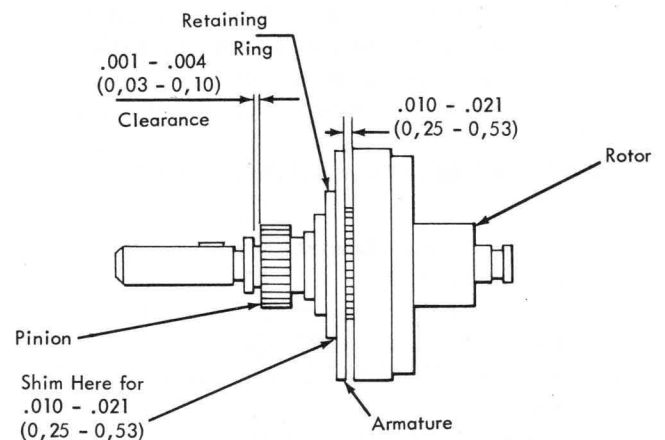

Figure 4-57. Friction-Style Ribbon Clutch
- b. Position the rotor assembly for a clearance between the pinion and the shoulder on the clutch shaft of .001 to .004 in. (0,03 to 0,10 mm) (Figure 4-57).
2. Friction style clutch adjustment (Figure 4-57):